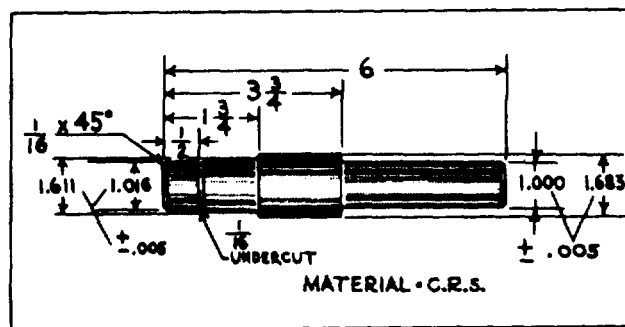

FIGURE 9 Seal Seat Tool
q. The seal seat should not be removed unless the seal face is excessively worn or damaged. To remove the seal seat, invert the adapter and drive out the seat with a hard wood block. If a new seat is required, press into adapter, using seat driver shown in Figure 9.
bb. Install outboard bearing assembly. Coat the I.D. of bearing bore with white lead. Lubricate the bearing with light grease. Drive the bearing down over the drive shaft with special tool, Figure 9 until it bottoms.